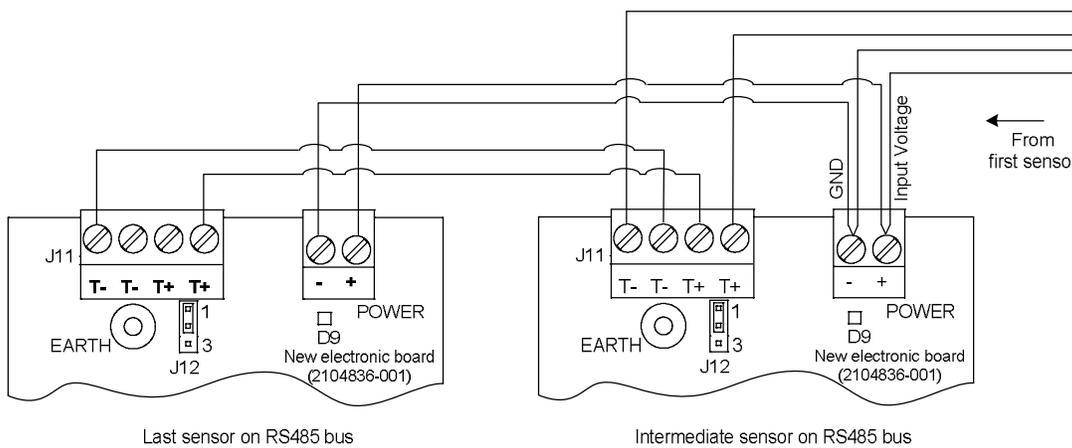
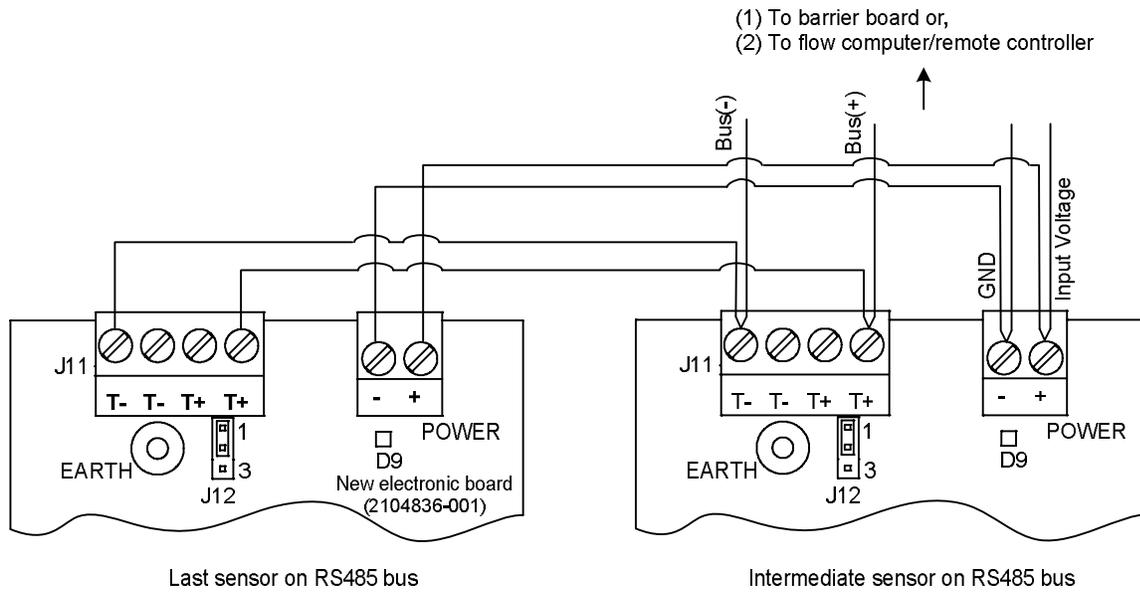
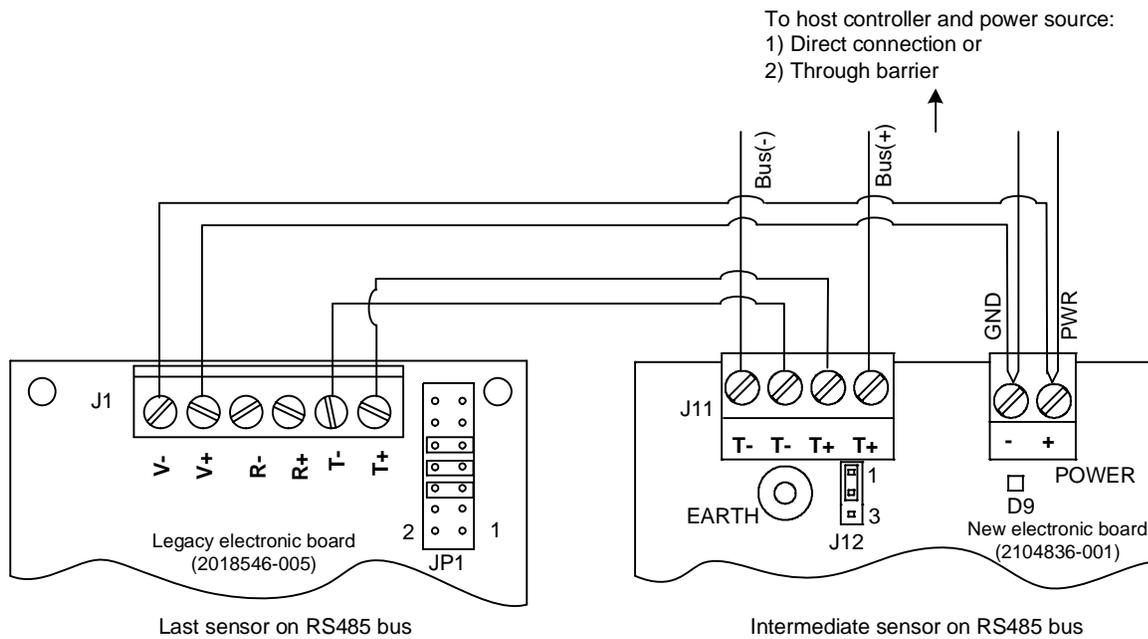

Figure 25: Three-LevelMaster RS-485 bus (same board type)
Figure 26: Two-LevelMaster RS-485 bus of same board type using single communication contact pair
Figure 27: Two-LevelMaster RS-485 bus (mixed board type)
3. Insert the wires in the correct position (see Figure 24, Figure 25, Figure 26, or Figure 27 for sample wiring):
3. Insert the wires in the power connector, observing correct polarity (see Figure 24, Figure 25, Figure 26, and Figure 27 for sample wiring).
Figure 25 displays two additional LevelMasters connected to the first LevelMaster. The first and second LevelMasters are intermediate units on the bus. The third must be configured to terminate the bus. Communication connections in intermediate nodes use both pairs on the RS-485 ports.
**i** **IMPORTANT NOTES:** Connection options depend on the type of wire, gauge, and user preference (see section 4.2, *Selecting wire type*). Figure 26 shows a two-LevelMaster bus with boards of the same type, where the communication connection for the additional LevelMaster is through the same connection pair on the RS-485 port on the first LevelMaster (instead of using both pairs as in shown in Figure 24). While using both pairs is recommended, this connection also works and is left up to customer preference.
Figure 27 displays wiring between two LevelMasters with different board types. The first LevelMaster is the intermediate sensor on the bus. The additional LevelMaster, with a legacy board, is the last sensor on the bus and must be configured to terminate the bus (JP1 jumpers are placed on 5-6, 7-8 and 9-10 as indicated in section 4.1.3, *Onboard termination jumpers (legacy boards only)*).